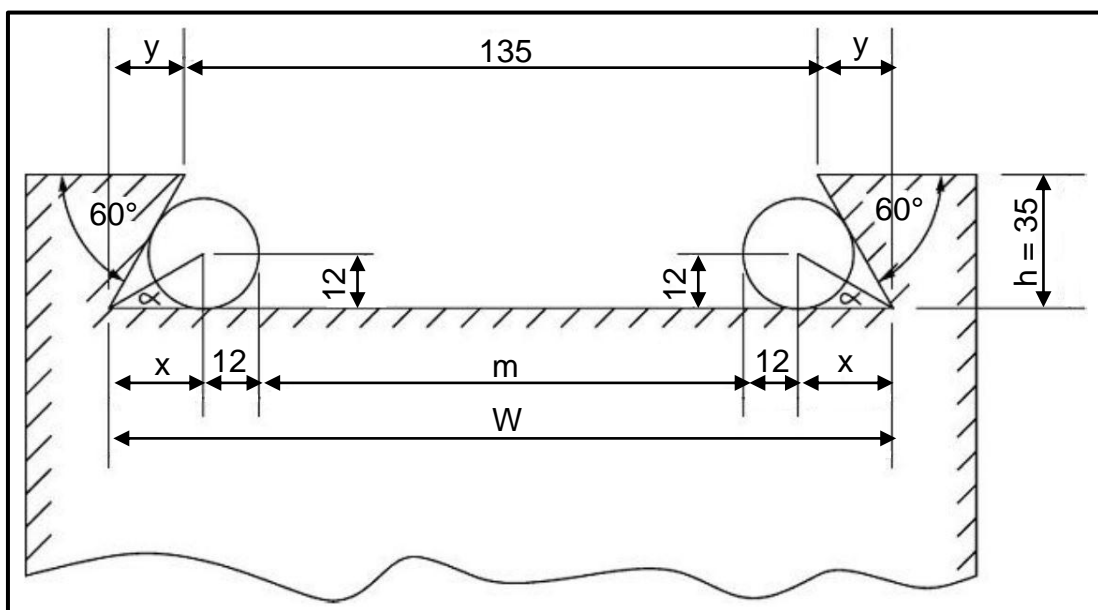

FIGURE 6.2
6.2 FIGURE 6.2 below shows an external dovetail that must be manufactured for a compound slide of a lathe machine.